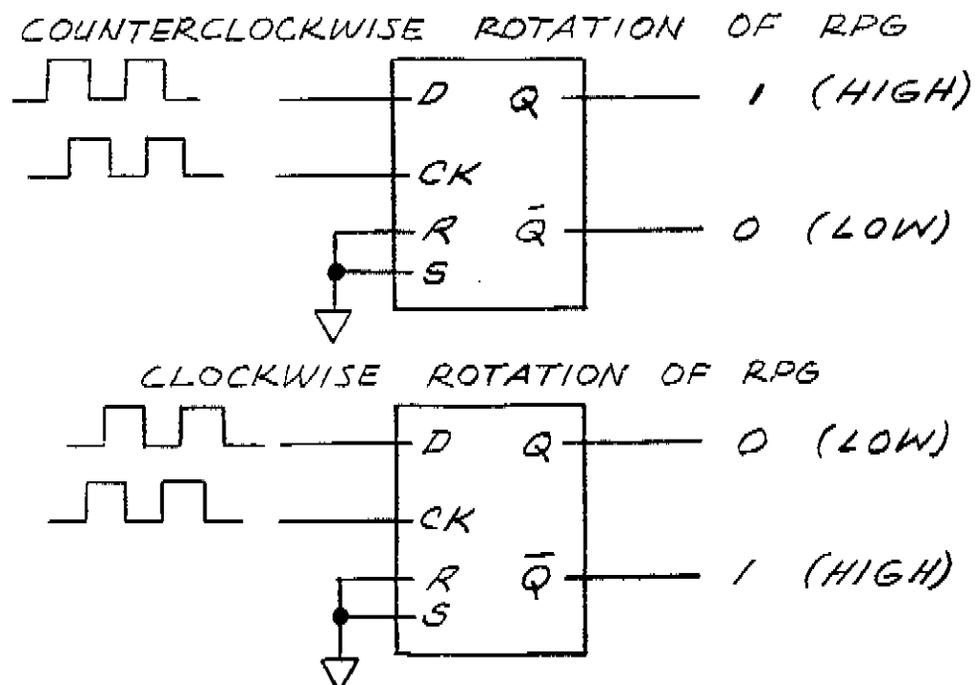

Figure C3-22A. Up/Down Detector Operation
When one of the RPGs is turned, pulse trains similar to those shown in Figure C3-22A are delivered to the Up/Down Detectors. Both pulse trains are applied to the D flip-flops; one to the clock (CK) input and one to the data (D) input. The logic states of the outputs of this flip-flop are determined by the phase relationship of the inputs as shown in Figure C3-22A. The \bar{Q} output of the flip-flop is connected to the Up/Down (U/D) input to the Counters. When U/D is high (logic "1"), counters count up and when U/D is low (logic "0"), counters count down. The Q output of the flip-flop is connected to the Stop circuits.